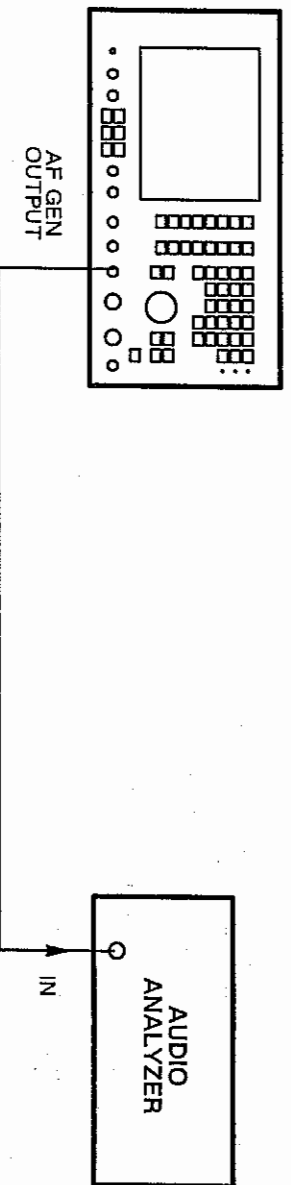

Fig. 6-16 Test equipment connections for AF generator residual noise
- (1) Connect the audio analyzer to the AF GEN OUTPUT socket. See Fig. 6-16.
- (2) On the 2955A, set the MODE to AUDIO TEST. Ensure that GEN 1 is ON and GEN 2 is OFF. Press the TONES and AUDIO SETUP keys. Set the GEN 1 FREQ to 50 kHz, LEVEL to 0 mV and SHAPE to SINE.
- (3) Set the audio analyzer to AC level with the psophometric band-pass filter on and all other filters off.
- (4) On the audio analyzer, check that the AC level reading is <0.1 mV RMS.
- (5) Reset the GEN 1 FREQ to other frequencies between 50 Hz and 15 kHz and repeat (4).